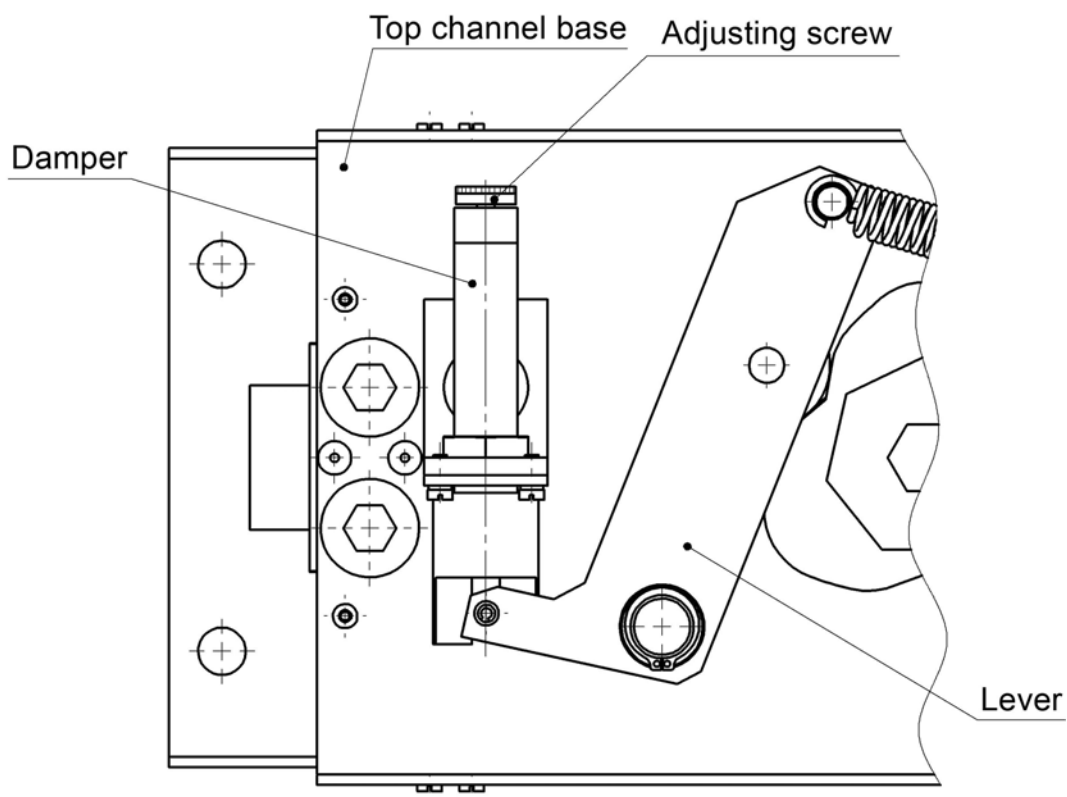

Fig. C.1. The damper of the RTD-15.2 turnstile, located in the top channel (13) (top view)
- undo the threaded pin at the end face of the damper adjusting screw (Fig. C.1) with a S1,5 hex-nut wrench;
- take the cover (14) on the top channel (13) and fix with the screws;